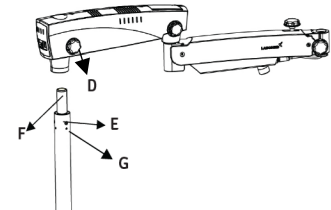

Fig. 31
8. Take out the Arm Assembly from the same box and follow the Instruction below: (Refer Fig. 31)
- a. Ensure that the swivel arm lock knob (D) is loosened.
- b. Mount the Arm Assembly into Shaft (F).
- c. Align three holes (E) with tapped hole on Shaft (F).
- d. Use Allen Wrench 4mm and tighten 2 M6x16mm Allen screws (G).